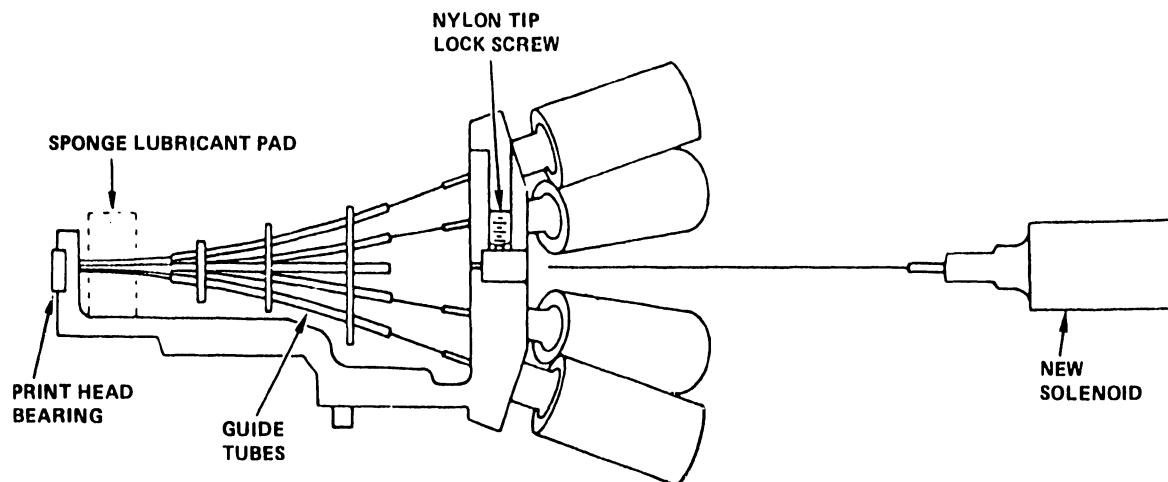

Figure 5-36. Removal and Replacement of Solenoids
5. Loosen the solenoid set screw; then unscrew the solenoid from the head casting. See Figure 5-36.